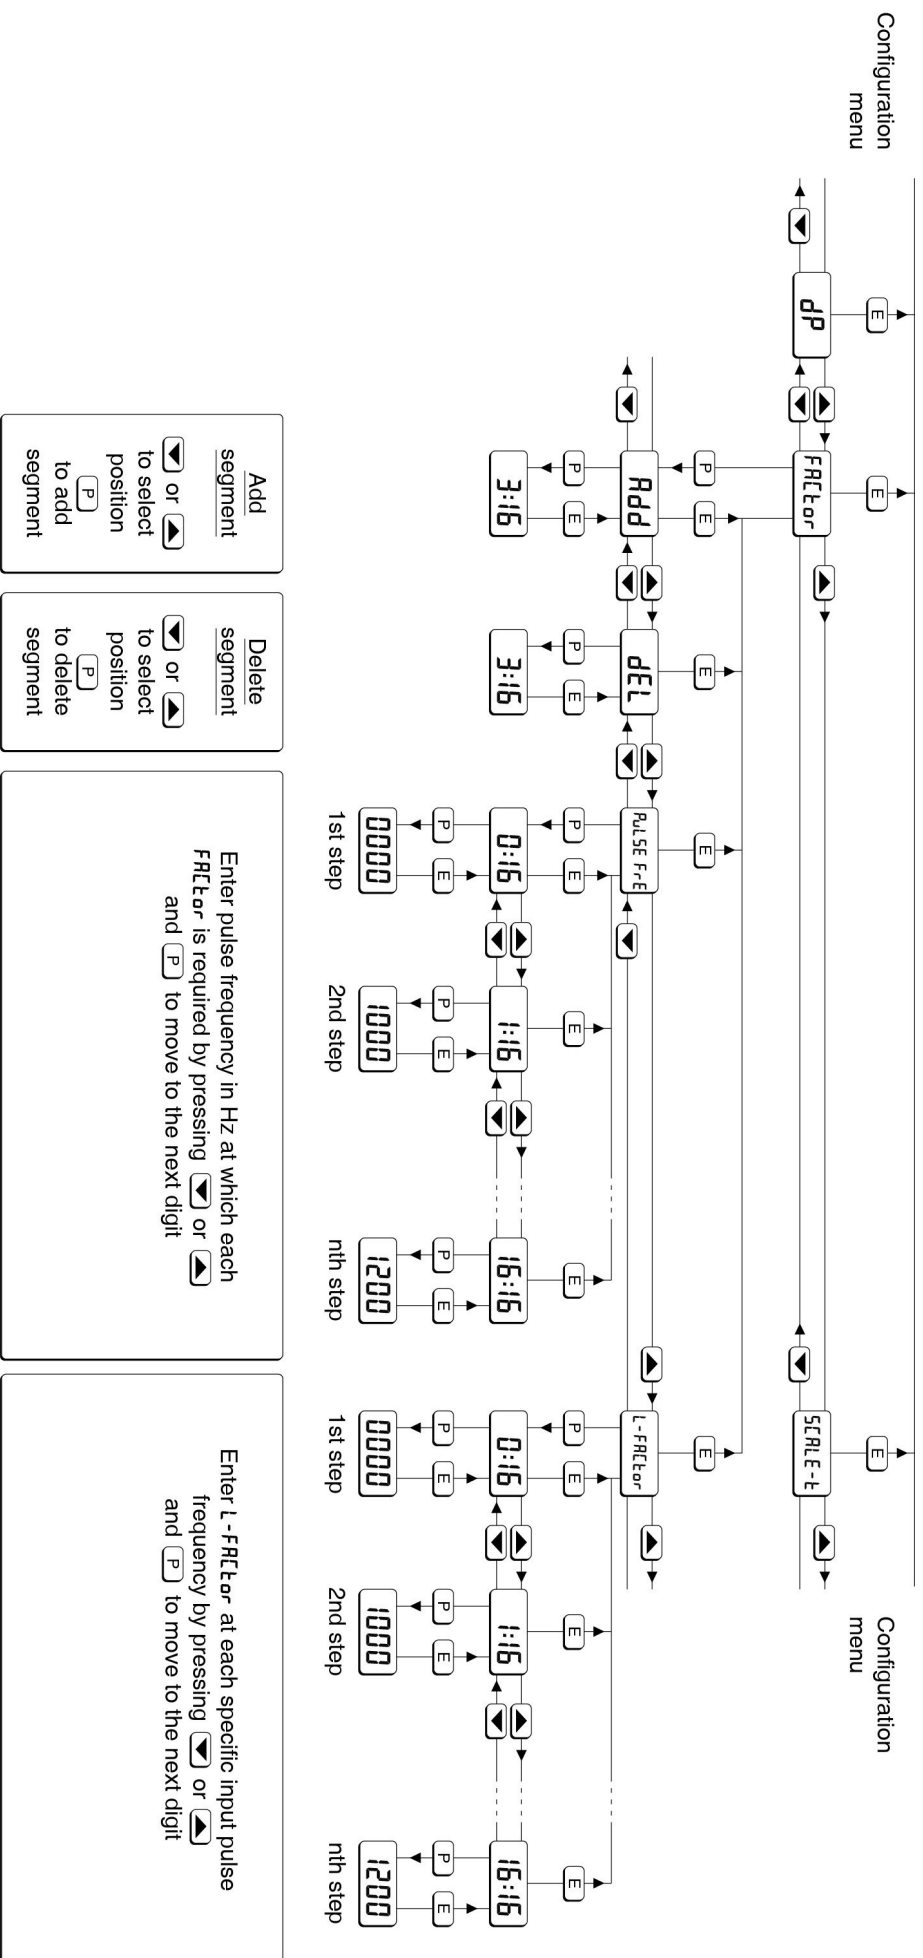

Fig 10 Lineariser configuration menu
Fig 10 shows how the Rate Totaliser configuration function **FRector** is extended when the lineariser is activated by selecting **LIN** in the **FUNCTION** menu.
*L-FRCEtor* is a sub-menu in the *FRCEtor* function for entering the flowmeter K-factor for each of the lineariser segments, see Fig 10.